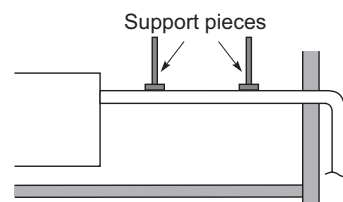

Fig. 2-140
- Do not apply force to the piping on the unit side when connecting the drain pipe. The pipe should not be allowed to hang unsupported from its connection to the unit. Fasten the pipe to a wall, frame, or other support as close to the unit as possible. (Fig. 2-140)